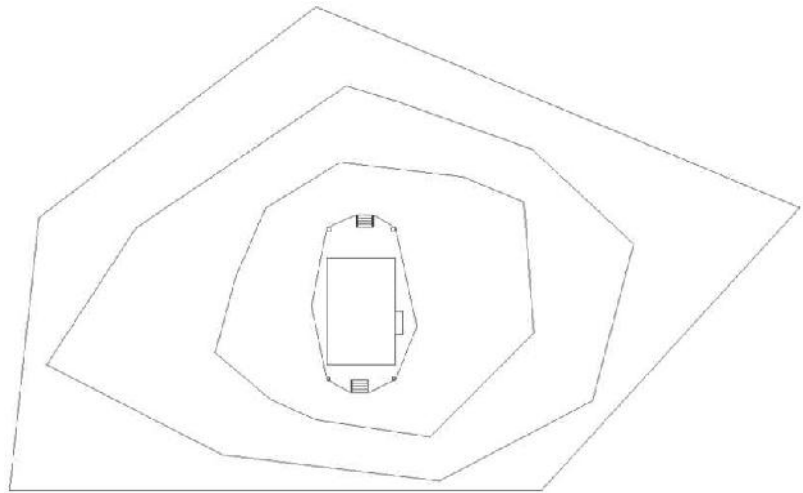

FIGURE 17.2 : Draw two more polylines between the cabin and the property line.
12. Change the layer of the inserted property line to the C-TOPPO-3DOB layer (see Figure 17.2).